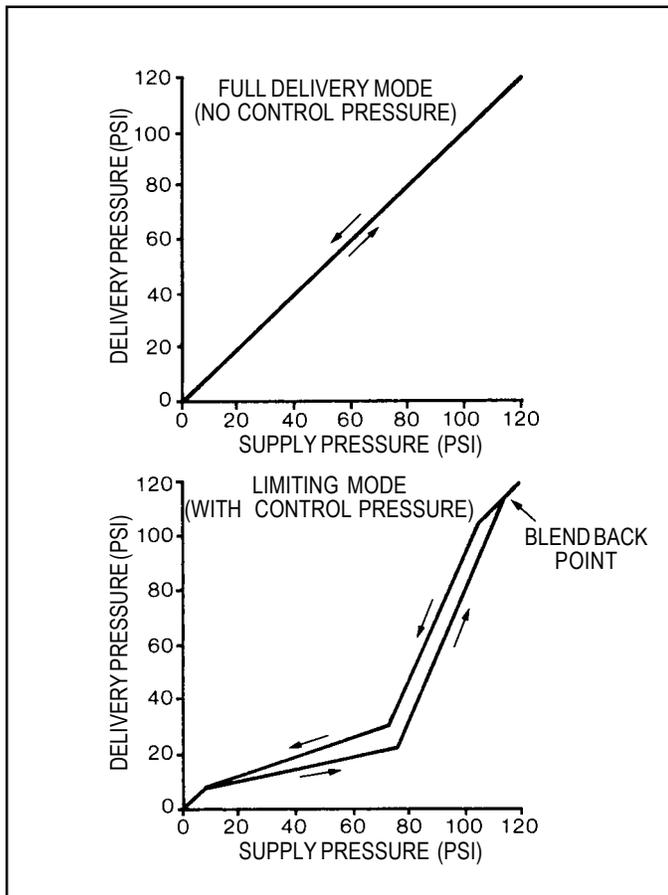
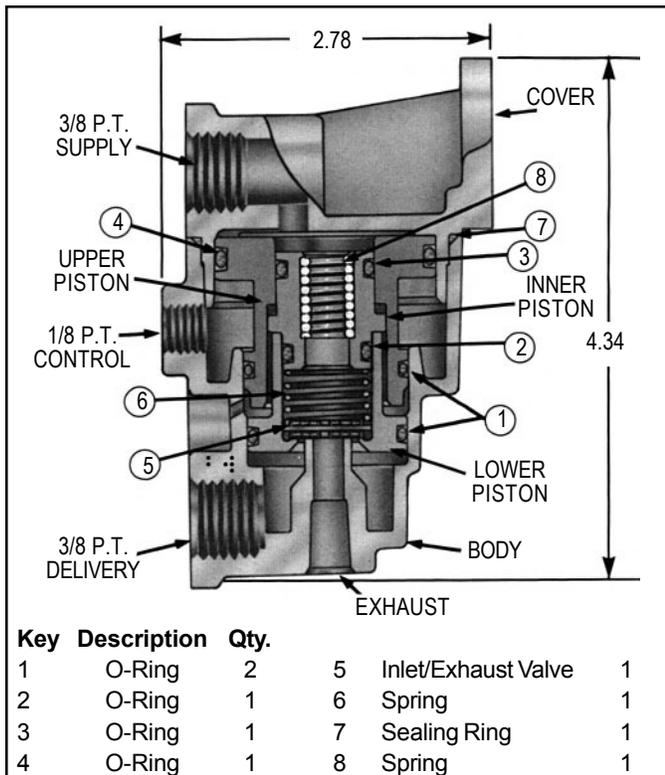

FIGURE 2 PERFORMANCE CURVE FOR NOMINAL BP-1™ BRAKE PROPORTIONING REAR VALVE
FIGURE 4 BP-1™ REAR BRAKE PROPORTIONING VALVE CUTAWAY VIEW
BP-1™ REAR VALVE (REFER TO FIGURE 4)
When the trailer supply valve is activated, air pressure is delivered to the trailer via the supply line. At the same time air is delivered to the TR-3™ inversion valve which exhausts the air to the control port of the BP-1™ valve and a brake application is made, air entering the supply port works upon the total area of the upper and inner pistons and delivery pressure equals supply pressure. See Figure 2, full delivery mode.
inversion valve is also exhausted. This sequence causes full reservoir pressure to be delivered to the control port of the BP-1™ rear valve. This air is contained on the underside of the upper piston and when a brake application is made the air entering the supply port of the BP-1™ rear valve can only affect the surface of the lower and inner pistons. Due to the reduced area of the lower and inner pistons, the valve delivers approximately 25% of the supply pressure to the relay valve. See Figure 2, limiting mode. In addition, spring #8, Figure 4 causes the lower piston to be initially held open until initial delivery pressure closes the lower piston and the valve will limit normally. The purpose of this initial delivery is to offset the relay valve crack pressure when the vehicle is operating bobtailed and enhance the performance of the proportioning system.
DISASSEMBLY OF THE BP-1™ REAR VALVE (REFER TO FIGURE 4)
3. Install the o-rings onto the pistons and the cover as shown in Figure 4.
4. Install the inlet/exhaust valve into the bore of the lower piston. Place the spring(6) on top of the inlet/exhaust valve.
6. Place the piston assemblies into the body of the valve and install the spring (8) into the I.D. of the inner piston as shown in Figure 4.
3. Install o-rings(1) and (2) on the lower piston, o-ring(3) on the upper piston and o-ring(7) on the cover. Refer to Figure 4.
5. Place the inlet/exhaust valve(5) into the I.D. of the lower piston and retain with valve spring(6). Use needle nose pliers to install spring(6) by grasping spring on the bar that intersects the end of the spring and twisting in a clockwise motion while pressing down.